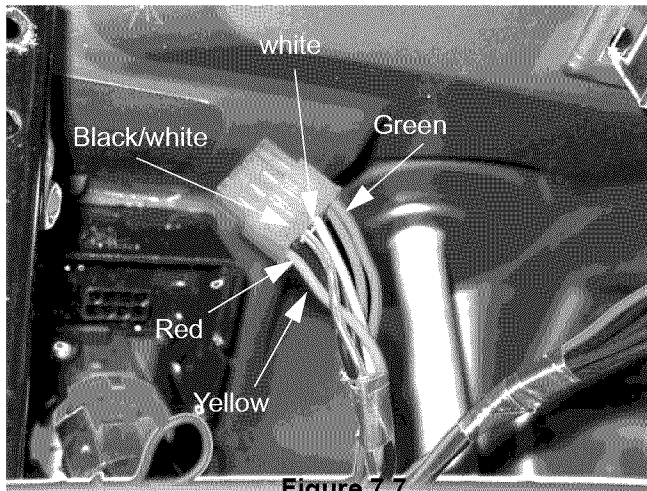

Figure 7.7
1. Disconnect the molded 8-pin plug from the RMC module. See Figure 7.7.